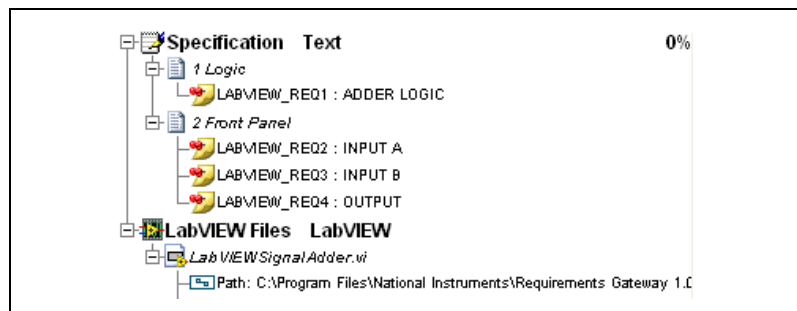

Figure 9-1. LabVIEW Document in Project
17. Expand the contents of the two documents in the Management View as shown in Figure 9-1. Requirements Gateway displays the `LabVIEWSignalAdder.vi` file under the LabVIEW Files document.